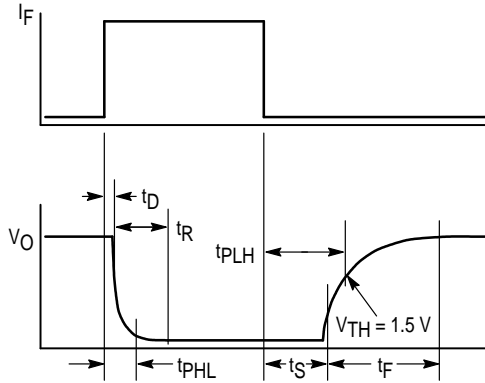

Figure 8. Switching Waveform
6. For test circuit setup and waveforms, refer to Figures 8 and 9.